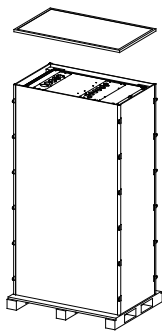

Fig. 2-1
- 1.Disassemble the top cover: cut off the packing tape by scissors and remove the top cover(Fig.2-1);